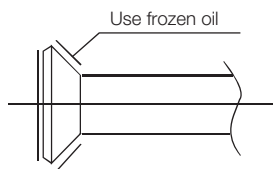

Fig.8-1
- 2) Daub the surfaces of the flare pipe and the joint nuts with frozen oil, and wrench it for 3~4 rounds with hands before fasten the flare nuts. (Refer to Fig.8-1).